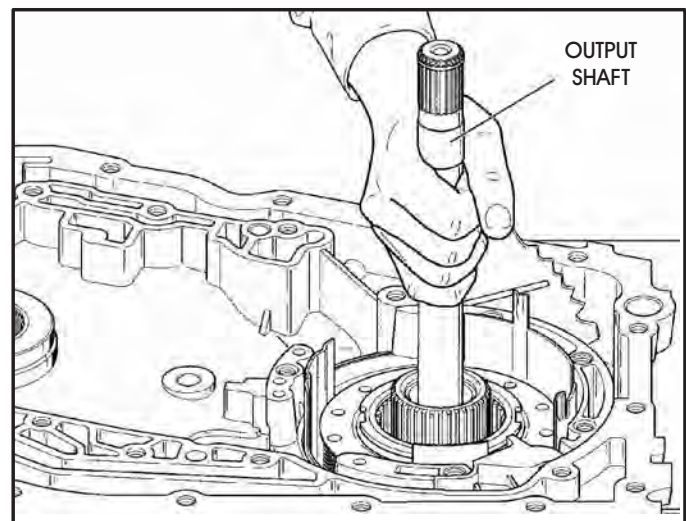

Figure 184
38. Install the output shaft into the transaxle, as shown in Figure 184.